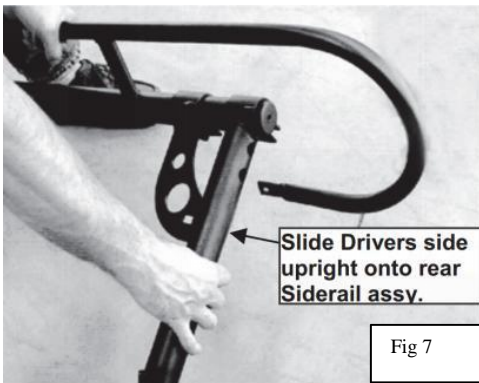

Fig 7
1. Starting with the Drivers Side, slide the Rear drivers side uprights onto the Rear side rail assembly (Fig 7).